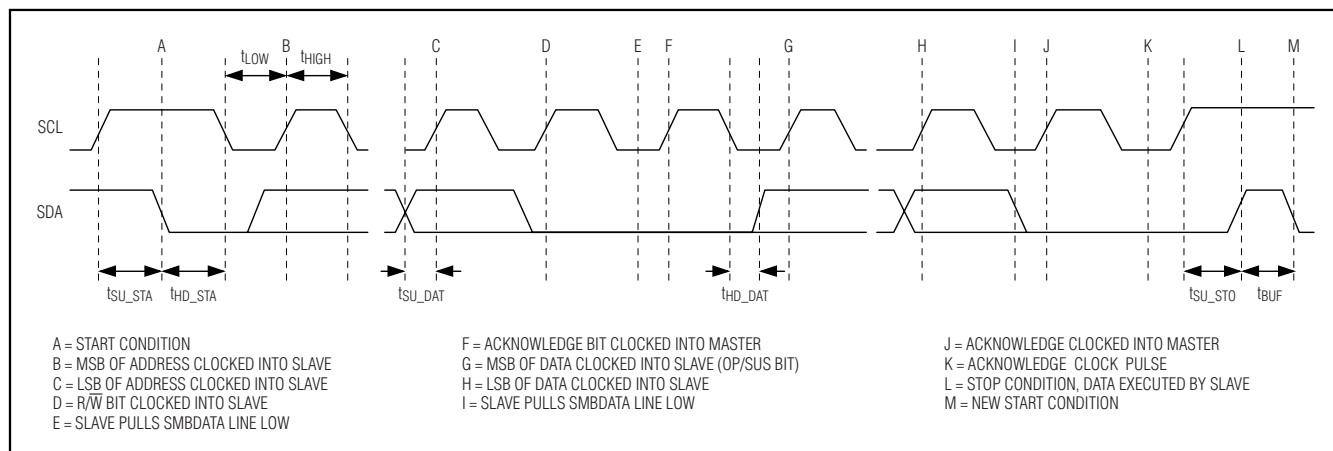

Figure 2. Definition of Timing for I2C Bus
used. Figure 2 shows a timing diagram for the I2C protocol. The MAX8647 is a slave-only device, relying upon a master to generate a clock signal. The master (typically a microprocessor) initiates data transfer on the bus and generates SCL to permit data transfer. A master device communicates with the MAX8647 by transmitting the proper 8-bit address (0x9A) followed by the 8-bit control byte. Each 8-bit control byte consists of a 3-bit command code and 5 bits of data (Table 1). Each transmit sequence is framed by a START (A) condition and a STOP (L) condition (Figure 2). Each word transmitted over the bus is 8 bits long and is always followed by an ACKNOWLEDGE CLOCK PULSE (K). The power-on default settings for D4 to D0 are all 0, which indicates that all LED\_ are off.